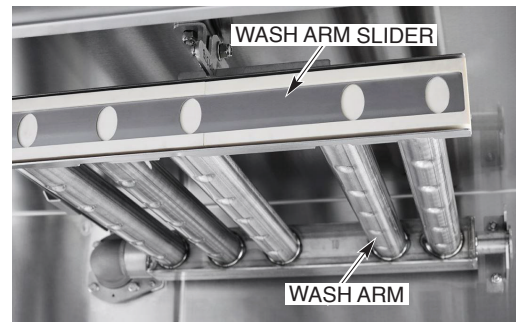

Fig. 27
5. Remove the wash arms. Open the wash arm sliders (Fig. 27) and push any nozzle obstructions into the wash arms. Thoroughly flush the wash arms in a sink. Close the wash arm sliders.